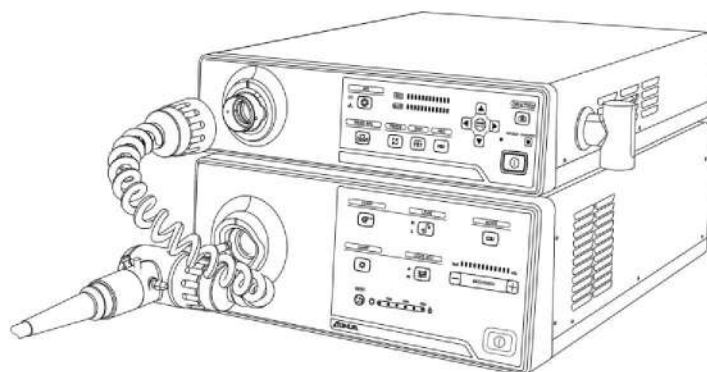

Figure 3.1 Connection of the endoscope and imaging processors
- 3 Firmly align the video endoscope cable connector, one of which end is connected with the electrical connector of endoscopes, into the endoscope connector inlet of AQL-100 or AQL-100L. Firmly insert the light guide of endoscope into the light sources AQL-100 or AQL-100L, and as shown in Figure 3.1.